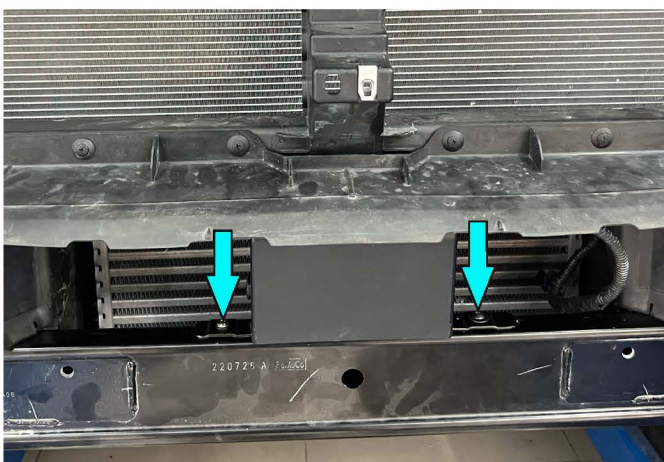

Fig.11
11. Unscrew OE bolts and disconnect radar plug (fig.11).